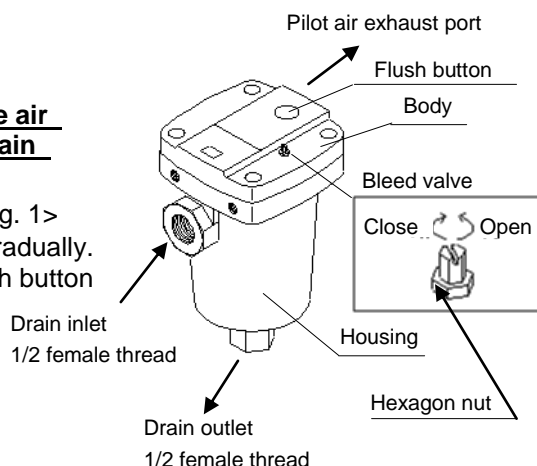

Fig.1 Name and Function of Parts
- * Exhaust the compressed air from the auto drain < Fig. 1 >